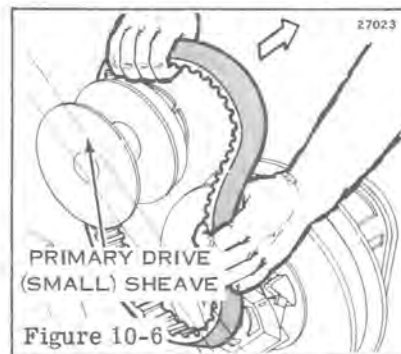

Figure 10-6
- g. Move belt from around primary drive, Figure 10-6.